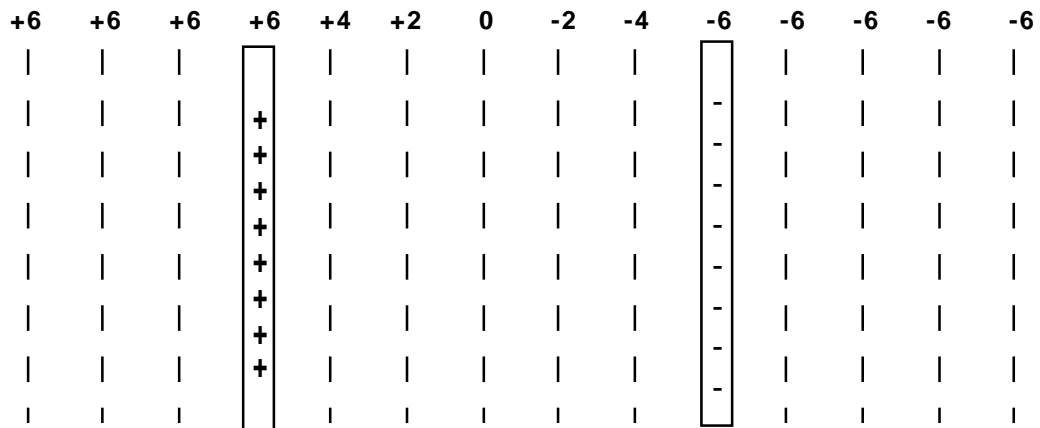

Figure 9.8c
Figure 9.8c demonstrates Principles #1 and #2. It shows the potential at each point -- on a line perpendicular to the plates -- as the numerical sum of the potentials at that point due to the presence of both (+) and (-) charge sheets.
As you can verify by looking at Figure 9.8c, there are potential differences between every pair of points in the space between the capacitor plates. But note that there are no potential differences in the external space. This is quantitative proof that the forms of quantitative Principles #1 and #2 that were proposed above are correct. The following exercise will help you look more closely at this issue.
For each of the following questions, look at the values for the electric potential due to the arrangement of charged plates in Figure 9.8c.
2. Explain why the value of the electric potential in Figure 9.8c: